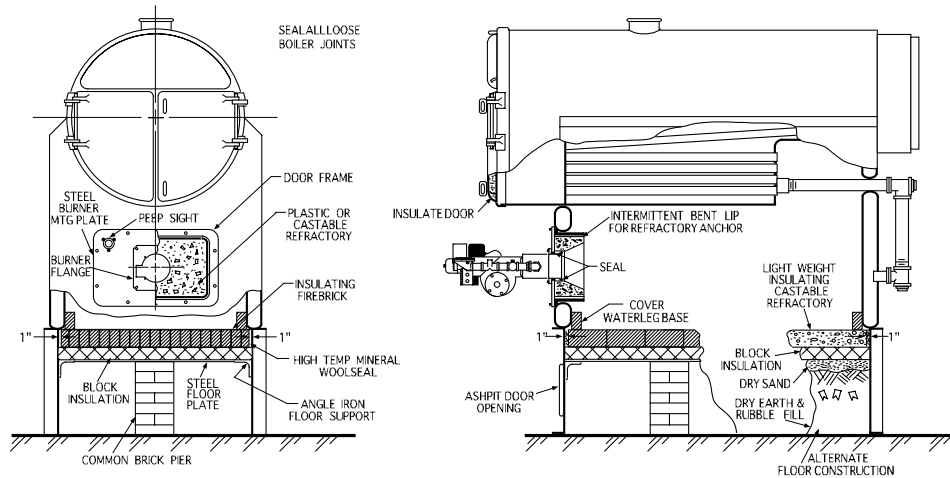

Figure 9: Firing Door Installation in Three Pass Boiler
- The burner mounting in the door must be rigid and refractory lined as shown in Figure 9. The burner nozzle must not protrude directly into the combustion chamber. The refractory liner must be flush with or extend beyond the burner face as shown in Figure 4. A sheet metal rim should encase the refractory up to the inside of the boiler wall. It should be intermittently bent inward to retain the refractory or other means of anchoring should be provided. A refractory felt blanket can be used in lieu of castable refractory, which will simplify construction at the burner entry.